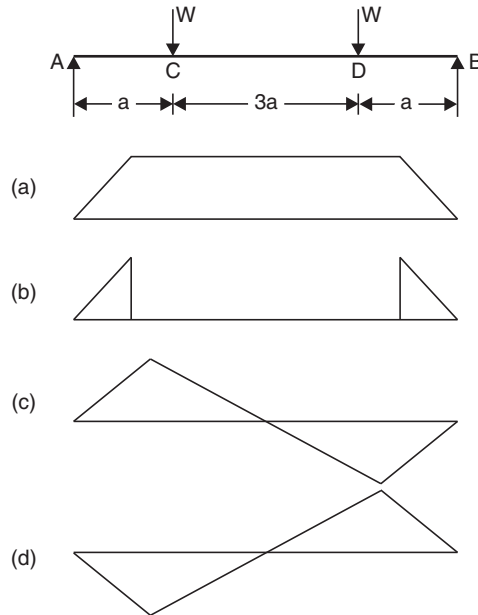

FIGURE 8.29
6. The bending moment diagram for the case shown in Fig. 8.29 below will be as shown in figure